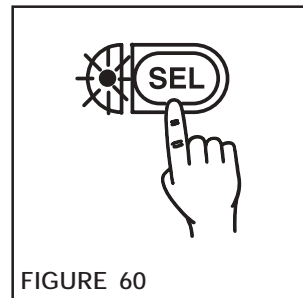

FIGURE 60
1. Press the **SEL**ect Key until the **SEL**ect Indicator illuminates (See Figure 60).